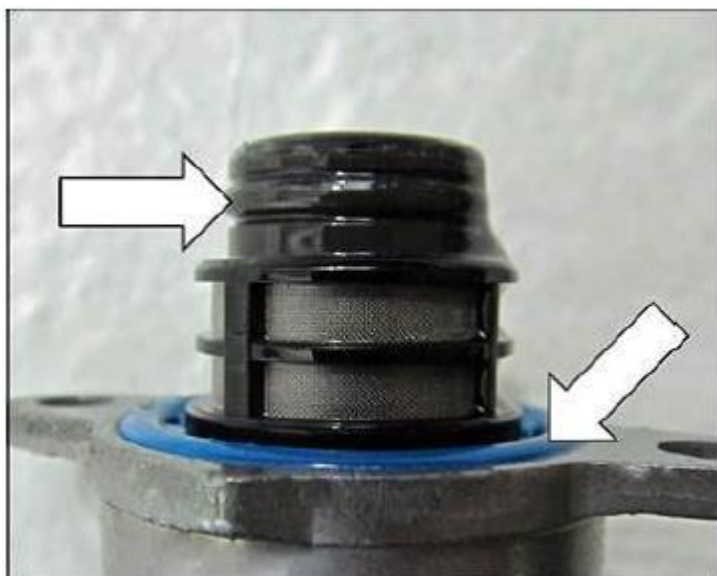

**Figure 2.** N290 Fuel Metering Valve and Valve Bore
1. Remove the **-N290-** Fuel Metering Valve and inspect the valve and valve bore for the presence of metallic particles (see Figure 2).